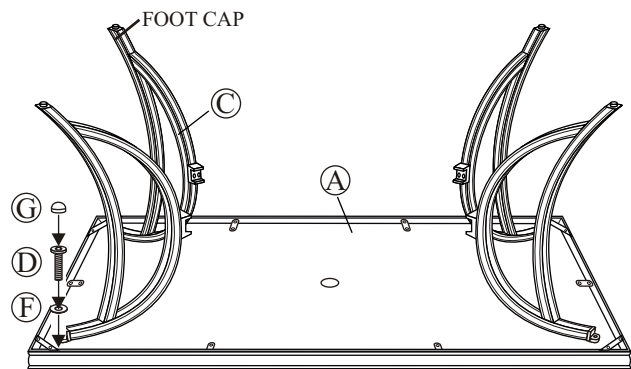

Fig.1
- 1 Working from behind the chair, have another person stand in front of the chair and position the sling seat frame in between the arms of the seat base as shown in **Fig.1** so that the holes on both sides of the upper portion of the seat frame back align with the fixed nut holes in the seat base.
Step 2: Place the table top upside down on a flat, non-abrasive surface. Attach a table leg to the table top by using the bolt and washer as shown in **Fig.1**. Place the leg beneath the table top corner bracket and into the pre-drilled hole in the table leg. **Hand tighten only 3-4 revolutions only. Do not tighten completely.** Repeat for the other three legs.